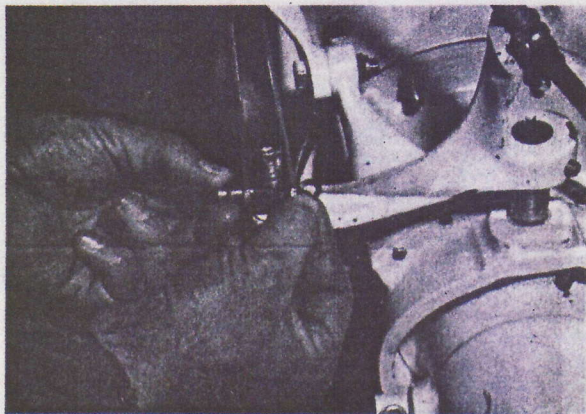

Figure 11
- 11 Connect steering extension bars to steering swivel, using clevis pin (20) two flat washers (21) and cotter pin (22) (Figure 11). Note proper orientation of steering swivel for Model 12JB or Model 12JC Jet-Drive.